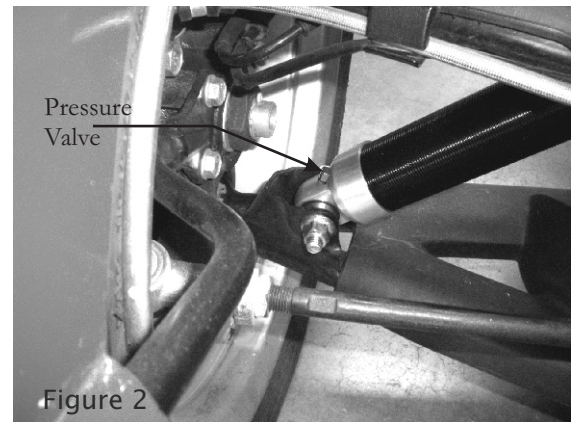

Figure 2
4. Mount the front shocks as you would your stock shocks per your authorized shop manual. Make sure the pressure valve is at the bottom and is facing outward - toward the wheel (figure 2). Tighten shock bolts to the proper torque specifications (refer to your manual).